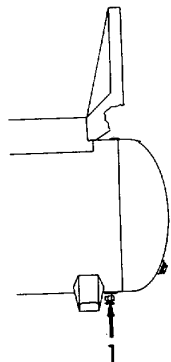
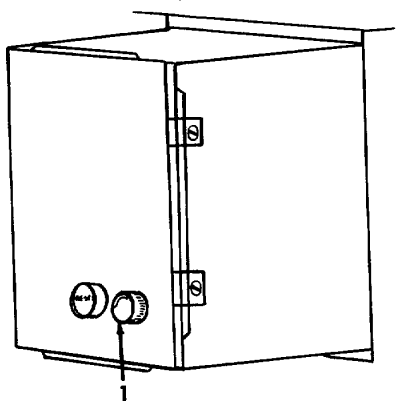

Figure 2-4. Air Tank Draining.
Figure 2-5. Motor Start-Up.
a. Refer to Figure 2-4. Open the drain cock (1) and allow all moisture to drain from air receiver tank.
b. Close the drain cock (1).
c. Refer to Figure 2-5. Turn the motor starter box on/off switch (1) to start the motor.
- c. Refer to Figure 2-4. Open the draincock (1) and allow all moisture to drain from tank.
- d. Close the draincock (1).